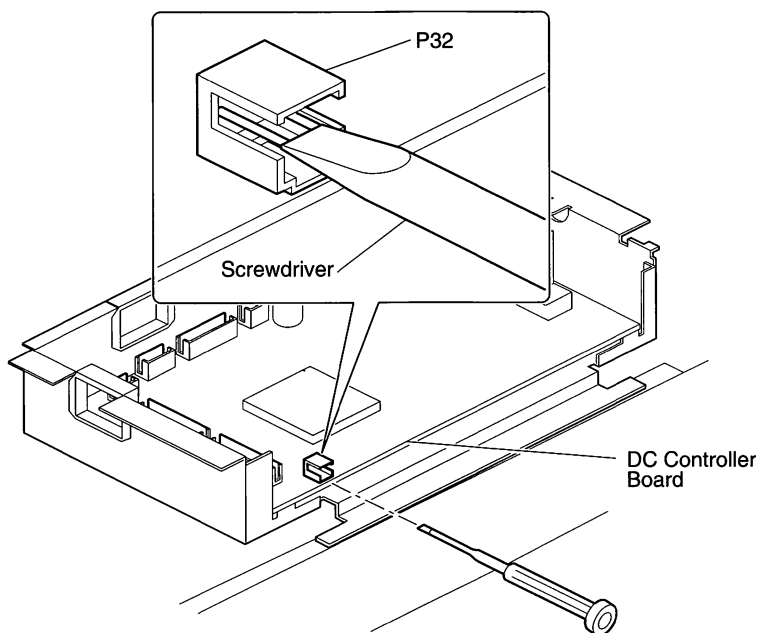

Figure 38. Generating a Service Test Page With I/O Board Removed
3. Using a paper clip or jeweler's screwdriver, jumper the two pins at connector P32 (see Figure 38).